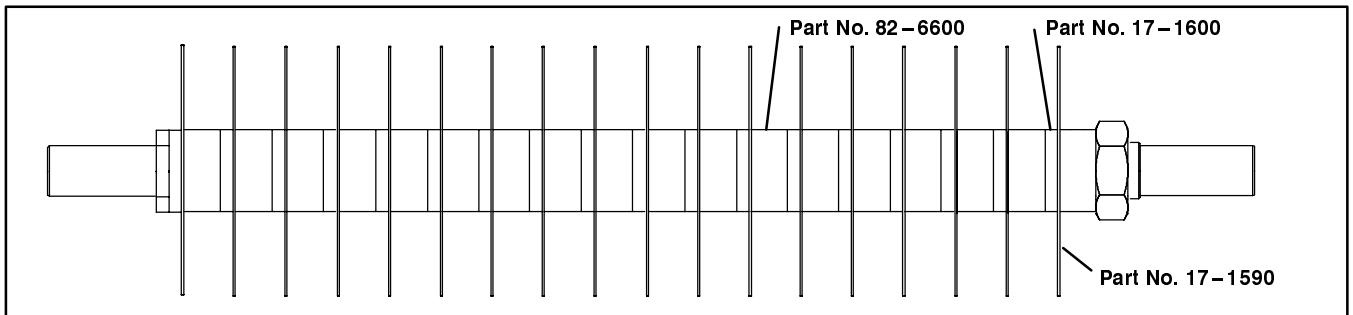

Figure 17
1" spacing, Kit Part No. 82-7001 – Includes (16) 1/4" Thick Spacers (part no. 17-1600) (Fig. 17).